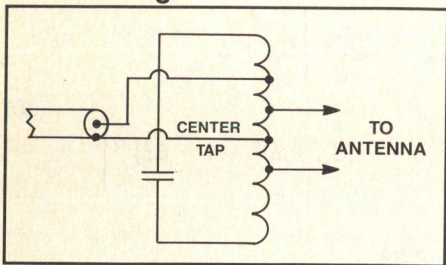

Figure 10. LC matching network.
shown in Figure 10 (6). The function of a transformer is realized by providing primary and secondary taps on the coil. For the case when a coaxial transmission line is used and the resonant antenna load is balanced, such as a symmetrically-situated center-fed half-wave dipole, the network also serves as a balun. This is accomplished by connecting the shield of the coaxial cable to the center tap of the coil. By connecting the capacitor as shown in the figure, an optimum selection of matching network component may be made. In effect, the inductor is an autotransformer with three functional windings: a primary, a secondary and a capacitor winding.
After selecting the capacitor, the tapped inductor of Figure 10 may be designed. This procedure will not be covered here. It is important to realize that the components chosen must be capable of withstanding the large electrical stresses encountered when high transmitted power is involved. In the author's experience, high radio frequency currents which flow in the capacitor in this kind of service place particularly high demands on that component.